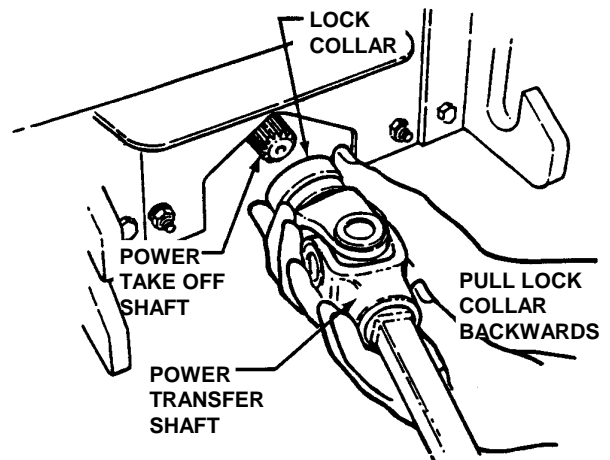

FIGURE 4.11
6. Pull lock collar back and slide power transfer shaft away from power take off (PTO) shaft. See Figure 4.11.
Engage parking brake. Turn engine "OFF" and remove key. The power transfer shaft connects the power unit to the mower deck. The shaft is telescoping for easy removal. Slide locking collar back toward mower deck and shaft will slide off. Refer to Figure 4.11.